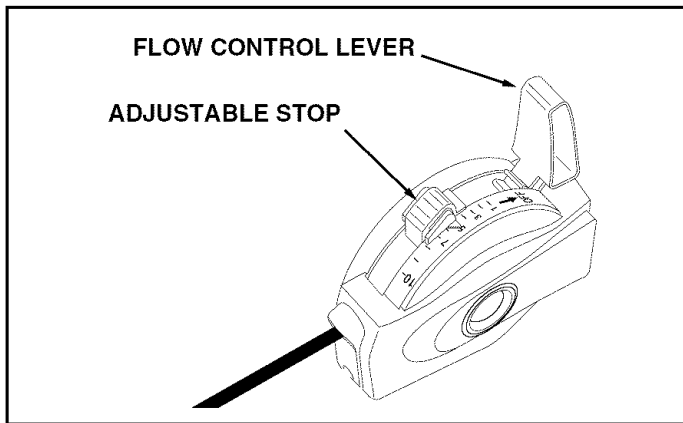

FIGURE 13
2. Move the Flow Control Lever forward until it snaps into the Adjustable Stop, locking the lever at the desired setting. See figure 13.